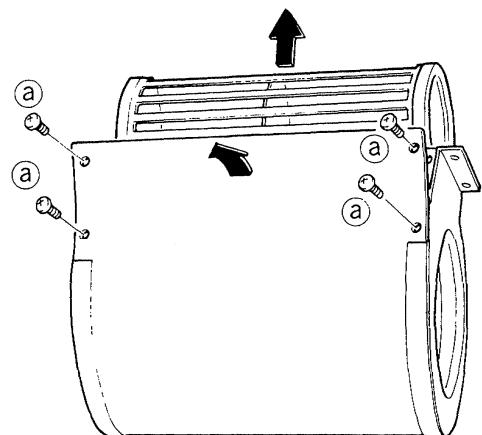

Fig. 12
7) The fan can be removed as shown in the figure when the four screws ② fixing the back plate of the fan casing are removed. Fig. 12